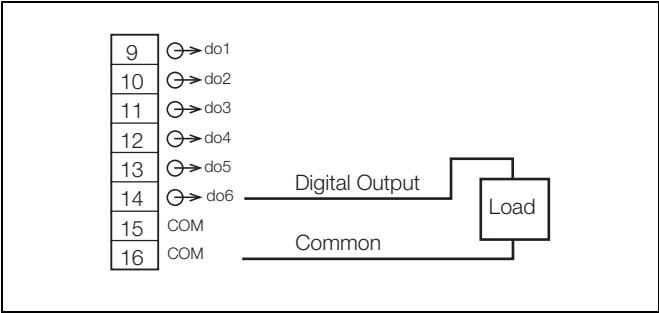

Fig. 5.12 Digital Output Connections
5.8.1 Digital Output Connections – Fig. 5.12